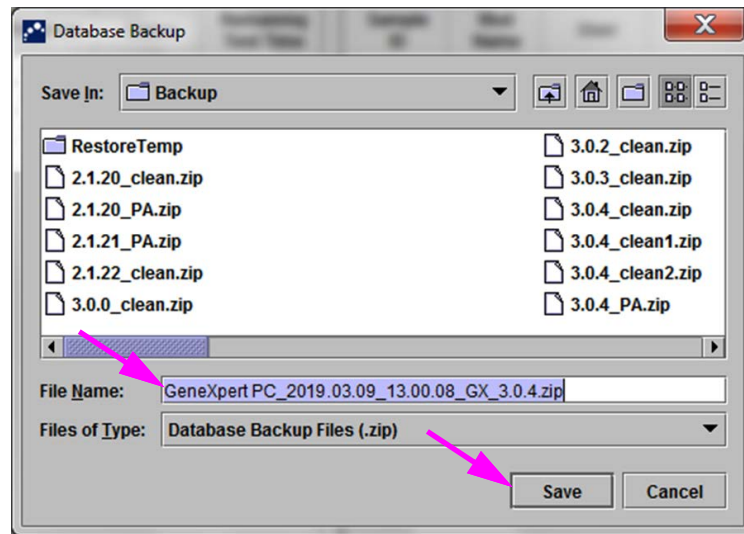

Figure 5-69. Backup File Naming
3. Locate and select the folder in which you want to store the backup file, type a name for the backup file (or use the default file name), and then click **Save**. The backup process creates a .zip file in the location you specified (see Figure 5-69).